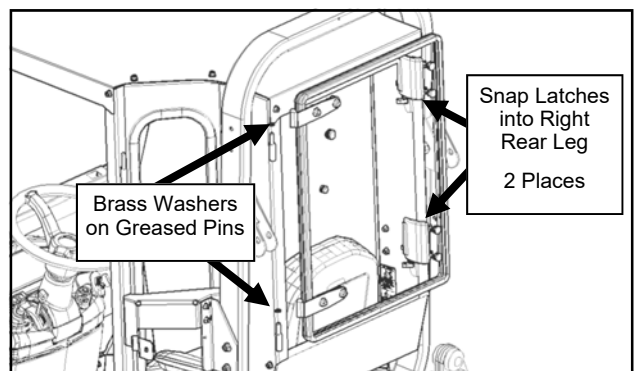

Fig. 13.1 (Hang Rear Window)
- 13.1** Grease the hinge pins for the rear window, and slide on greased brass washers (one washer per pin). See Figure 13.1.